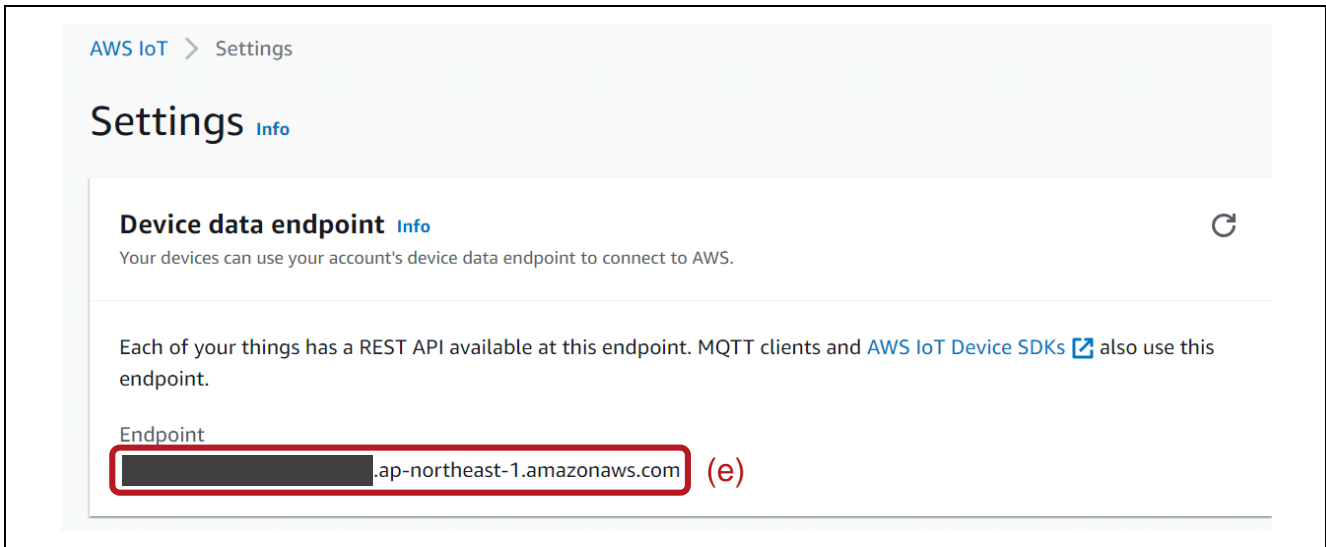

Figure 7-10 Check AWS Endpoint
- Select [Settings]. Make a note of the Endpoint. (Figure 7-10(e))
- #define clientcredentialMQTT_BROKER_ENDPOINT "Figure 7-10 (e) The Endpoint"